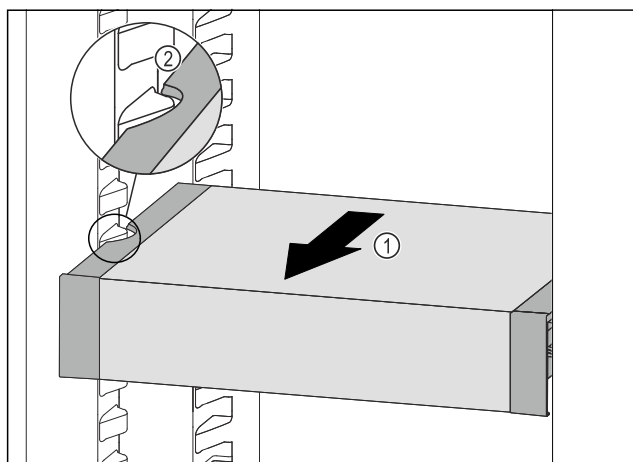

Fig. 156
- Pull VarioSafe forwards Fig. 156 (1) until the recesses in the side of the VarioSafe are at the level of the support rib in the fridge section. Fig. 156 (2)